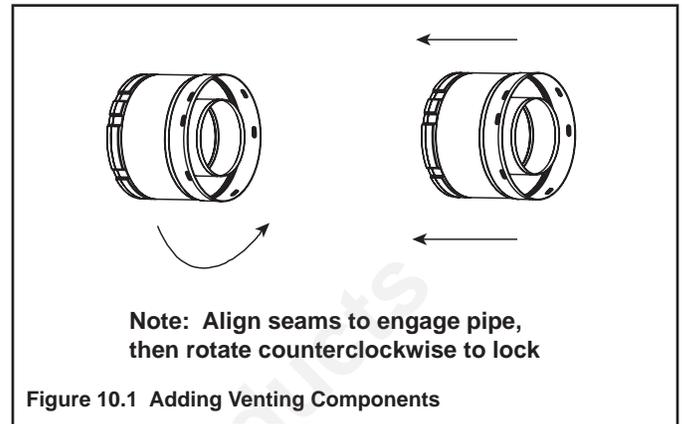

Figure 10.2 High Temperature Silicone Sealant (149 °C (300 °F) minimum continuous exposure rating)
- Apply a bead of silicone sealant inside the female outer pipe joint prior to joining sections. See Figure 10.2